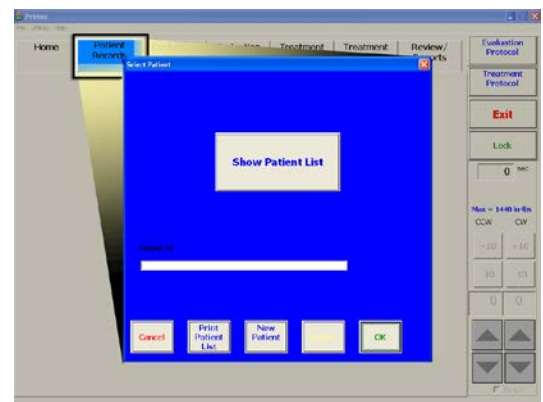

Figure 4h
- Step 2. A new window will appear (Figure 4h). If you have not yet defined a patient, go to Section 3.2 of this manual. Touch “Show Patient List” or enter a Patient ID in the “Enter ID” field.